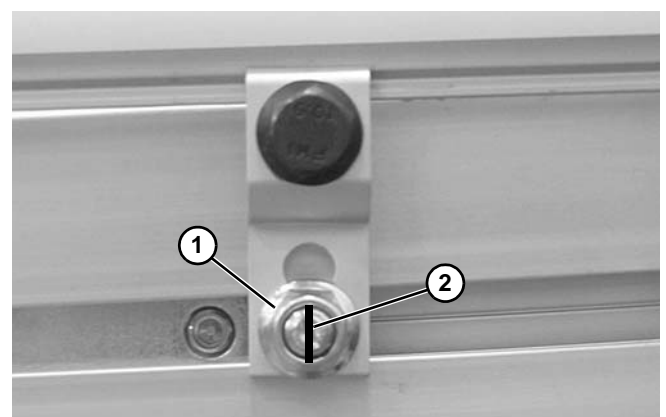

Figure 76
3. Tighten nuts (**Figure 76, item 1**).
*Be certain that slot (**Figure 76, item 2**) is close to vertical when finished tightening nut.*